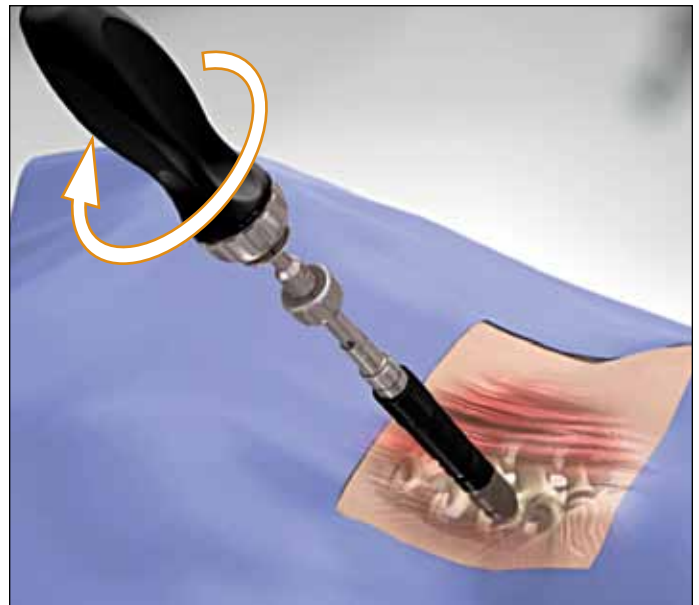

FIG. 20
- Advance the assembled Screw Driver over the Guide Wire. Screw it into the pedicle by turning the Screw Driver handle clockwise. Advance the screw until the tip reaches the posterior wall of the vertebral body. (FIG. 20)